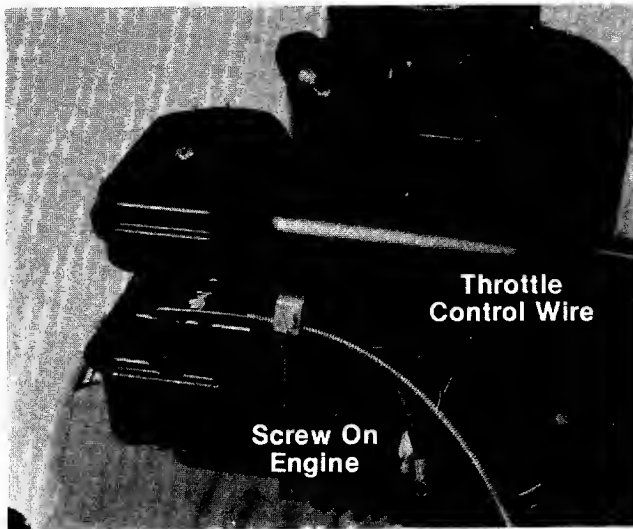

FIGURE 12.
1. Loosen, but do not remove, screw securing throttle control wire assembly at engine. See figure 12.